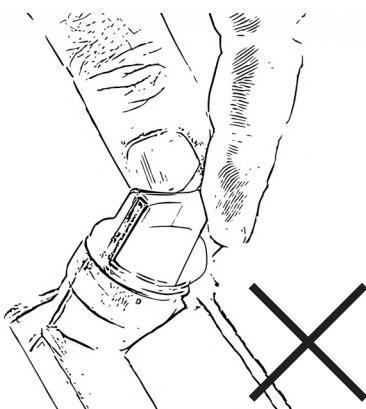

Figure 4
**Never turn the oil filler plug with connected dipstick into the thread when reading the oil level. This leads to an incorrect measurement result, Fig. 4.**
- Immerse the dipstick completely in the oil. **Never** turn the dipstick into the thread, Fig. 4.